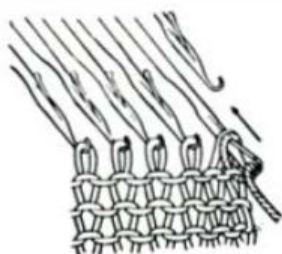

Fig. 68
- d. Repeat this process. (See Fig. 68)